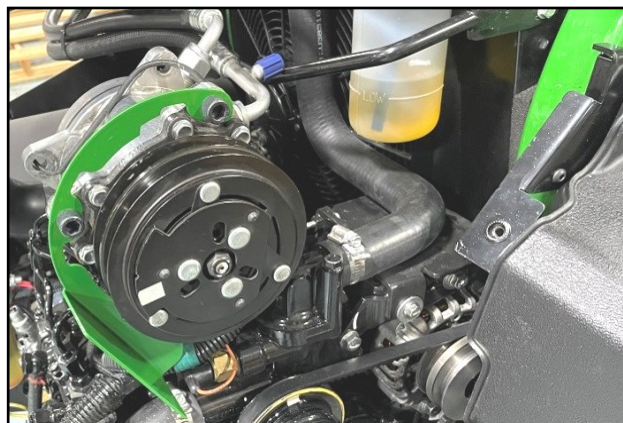

Fig. 2.11a (Install Compressor, Outside View)
2.11 To install the compressor, run hoses from the left to right side of the vehicle over the engine. Next, re-install the compressor onto the compressor mount. See Figures 2.11a and b.